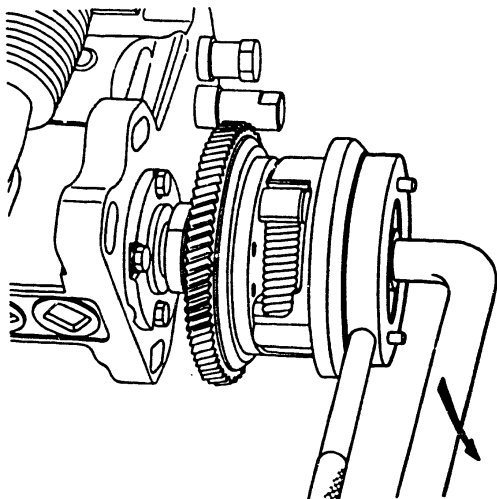

Fig. 22 Removing the round nut
1. Fix the timing device with a wrench, then remove the round nut (SW 14 mm). (Fig. 22)